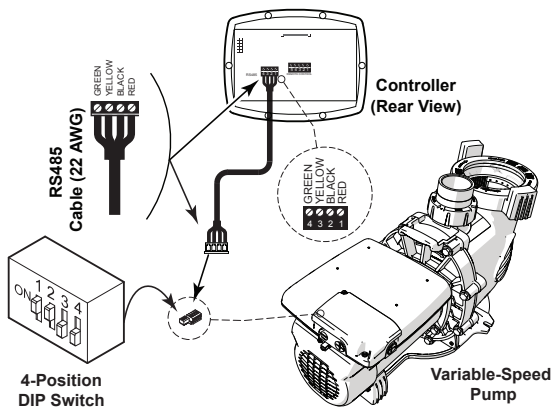

Figure 5. Wiring JEP-R VSP Controller
4. Attach the four (4) RS-485 cable wires to the RS-485 connector. Match the wire colors with the positions on the connector: See Figure 5.
- Dip switches 1 and 2 must be in the ON position, and switches 3 and 4 must be in the OFF position. See Figure 5.